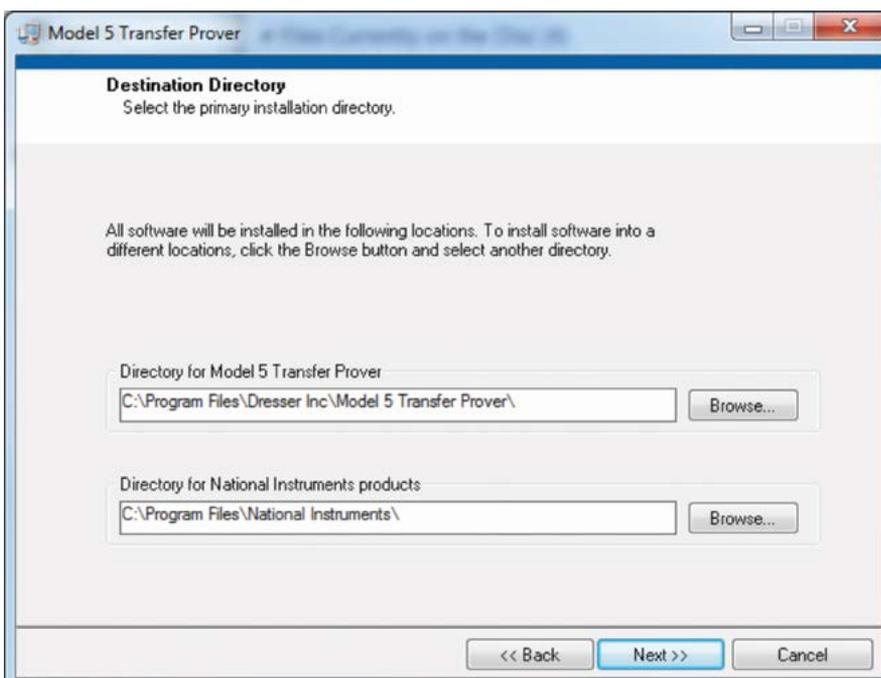

Figure 34: Destination Directory Screen
- A Destination Directory screen will appear. Select "NEXT" and the software will install in the default directory as shown in **Figure 34**. Unless, it is absolutely critical, do not alter the installation default path.